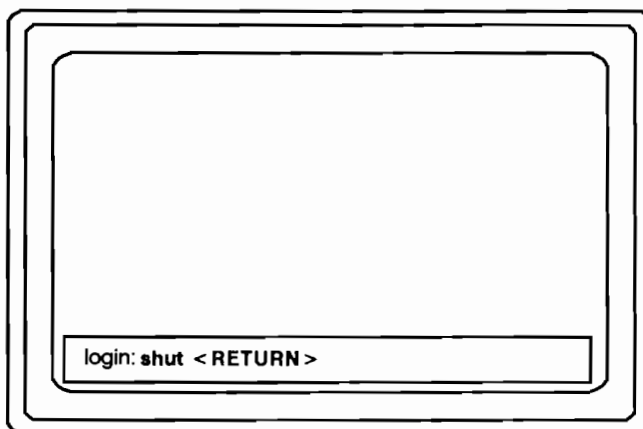

Figure 3-16. Shutting Down
2. Stop all processes by pressing <CMD> and entering the **shut** command as shown in Figure 3-16.